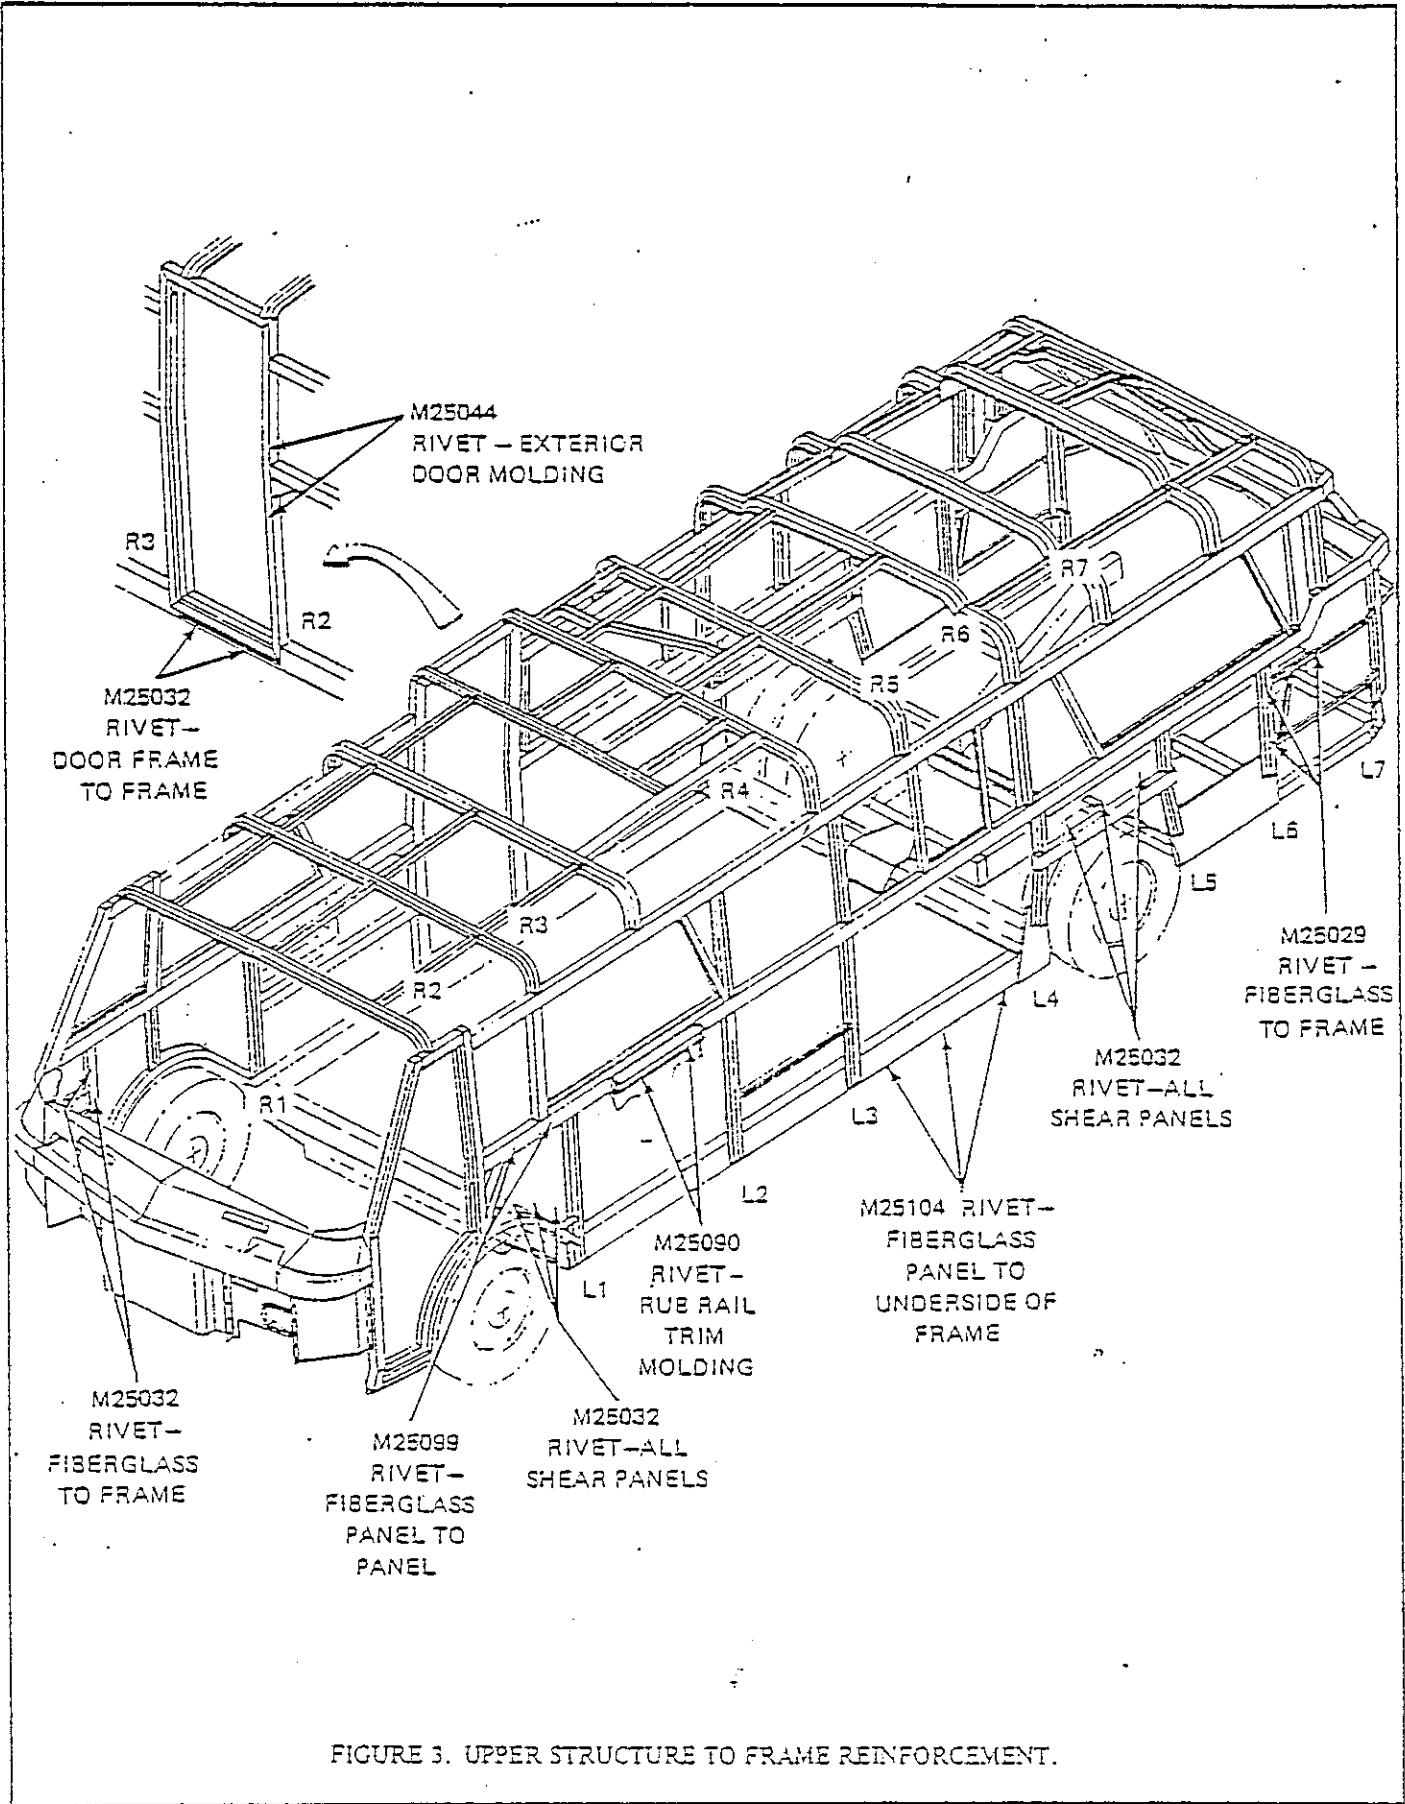
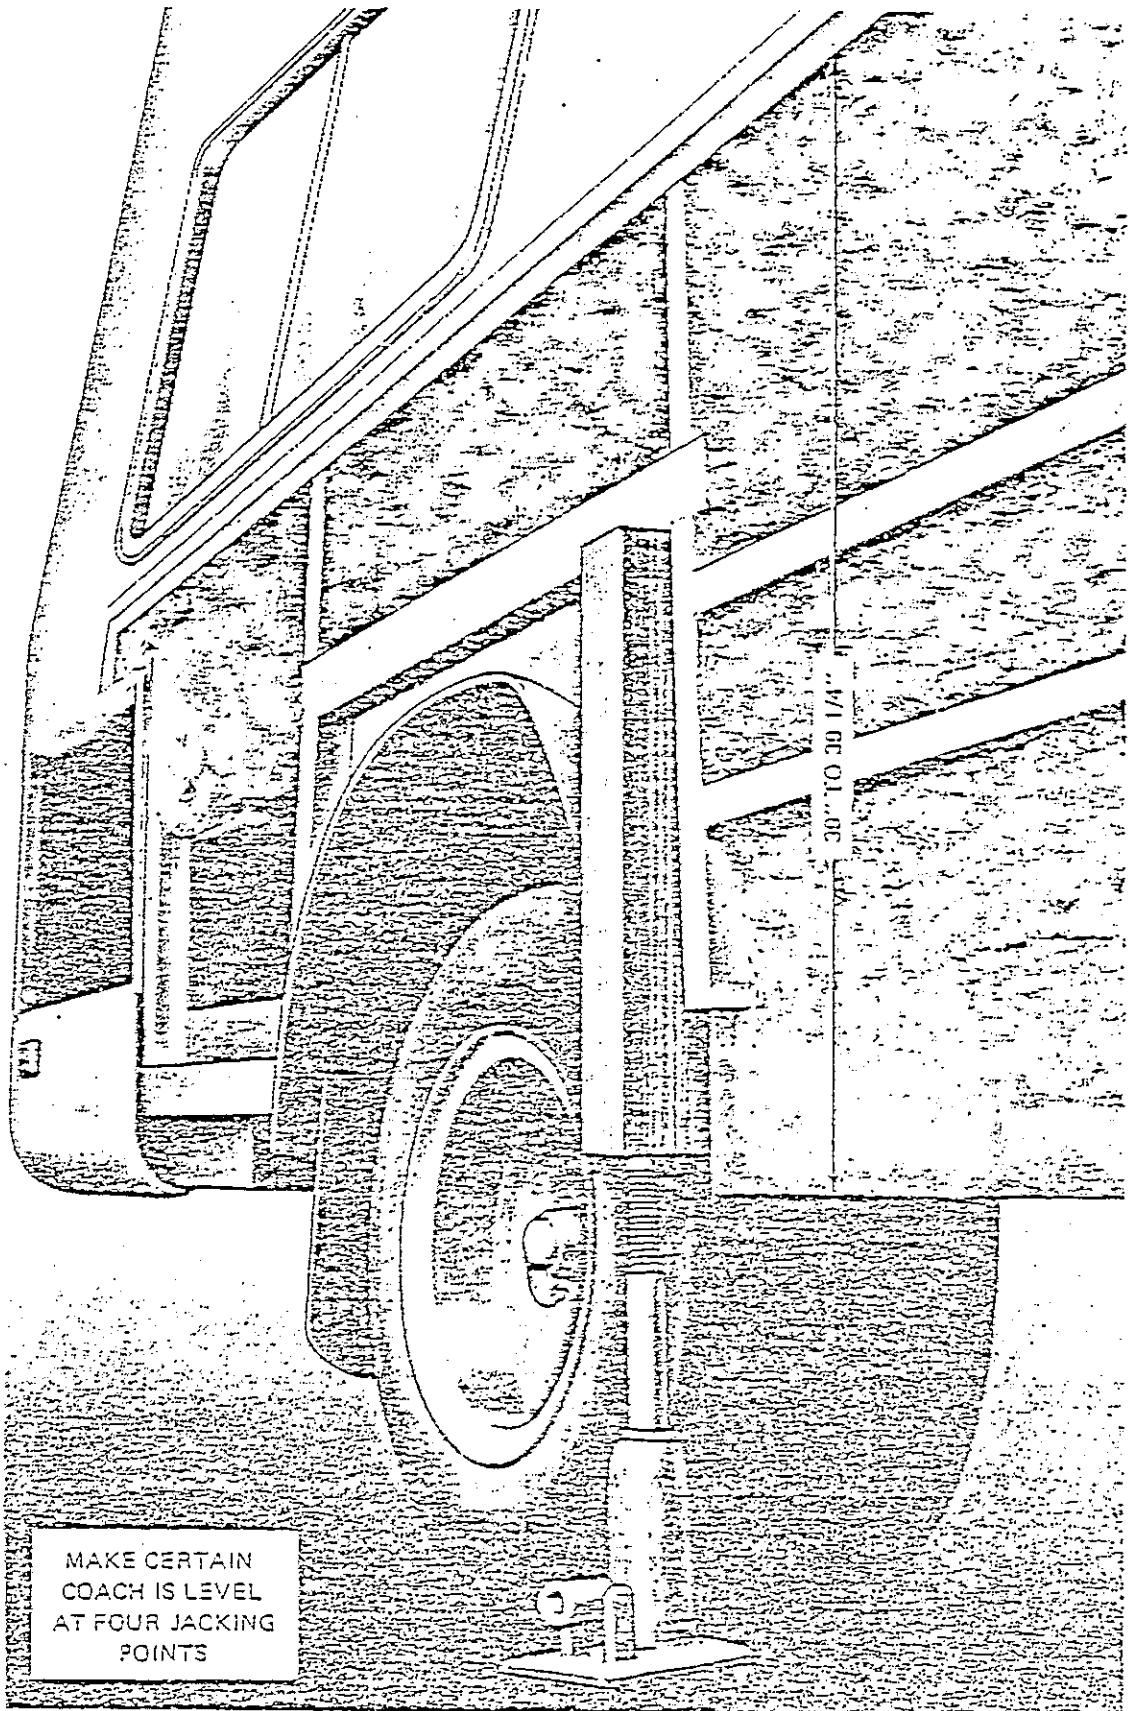

FIGURE 3. UPPER STRUCTURE TO FRAME REINFORCEMENT.
FIGURE 4. BODY TO FRAME DIMENSION.
Condition 2 - Right and left sections forward of rear wheels (L4 and R4) and all right side sections between rear wheel and front wheel (R3, R2 and R1) plus shear panels in front and rear right side wheel wells (see Figure 3) need reinforcement---8 man hours.	SUBJECT Frame Reinforcement Instructions
Condition 3 - Right and left sections forward of rear wheels (L4 and R4), all right side sections between rear wheel and front wheel (R3, R2 and R1) plus shear panels in front and rear right side wheel wells and left side sections rear of front wheel (L1, L2 and L3), plus shear panels in front and rear left side wheel wells (see Figure 3) need reinforcement. Call factory service representative 408-289-3665 regarding warranty reimbursement before proceeding with the work.	MODEL(S) AFFECTED All Motor Homes 00001 to 01050 Model 2900R
Condition 4 - Right and left sections forward of rear wheels (L4 and R4), all right side sections between rear wheel and front wheel (R3, R2 and R1) plus shear panels in front and rear right side wheel wells and left side sections rear of front wheel (L1, L2 and L3), plus shear panels in front and rear left side wheel wells, and all four corners of passenger door frame (see Figure 3) need reinforcement. Call factory service representative 408-289-3665 regarding warranty reimbursement before proceeding with the work.
A. Bull Section to Frame Angles (Figure 3, positions L4, R4, R2 and R3) 1. Make certain coach is level at all four jacking points. Jack up body until distance from horizontal strut (just forward of right rear wheel) to bottom of frame is 39 to 39 1/4" as shown in Figure 4. 2. Realign rivet holes as close as possible. 3. Close gap between upper body section and lower frame with C clamp. 4. Cut out shear panel only as necessary to install reinforcing angles. 5. Grind or file off existing rivet heads to make angles flush with shear panel. 6. Apply zinc chromate primer to reinforcing angles in all areas that come in contact with aluminum. 7. Place reinforcing angles (5109097-01) against the body section and flush with lower frame. Secure with C clamps.	All Motor Homes 00001 to 01050 Model 2900R
JOINT REINFORCEMENT - POSITION L4-R4 ONLY* (FIGURE 3)
PASSENGER DOOR REINFORCEMENT - POSITION R2 AND R3 ONLY (FIGURE 3)